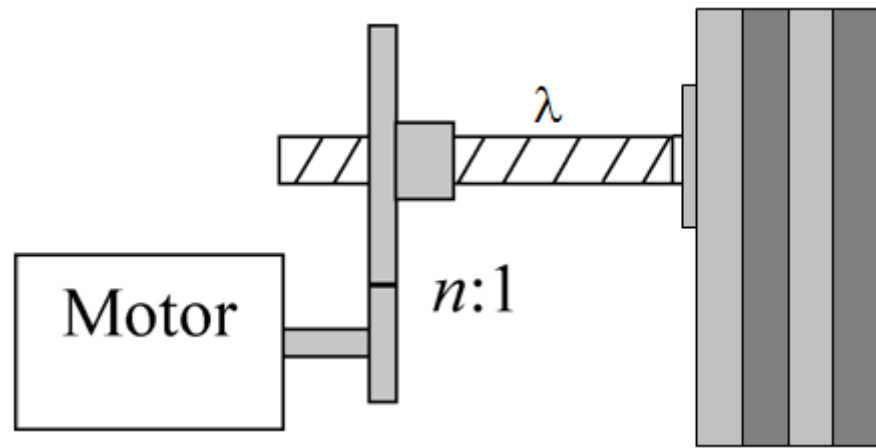

Figure 3.1 Schematic of electromechanical actuator.
3. a. An electromechanical actuator consisting of a brushless dc motor, a nut and a ball screw, figure 3.1 (page 4), is driving the carbon brakes of an aircraft. The brushless dc motor has a torque constant $k = 0.51 \text{ Nm/A}$, a winding resistance $R = 8 \Omega$, and a rotor inertia $J_m = 2.45 \times 10^{-4} \text{ kg.m}^2$. Furthermore, the screw pitch length of the electromechanical actuator is $\lambda = 5.5 \text{ mm}$, and the gear ratio between the nut and the shaft of the brushless motor is 35:1. Furthermore, the reaction force from the carbon brakes increases linearly with position, $F_r(x) = ax$, and $a = 24 \times 10^6 \text{ N/m}$. For a linear displacement $x = 1.25 \text{ mm}$:
- Calculate the efficiency of the brushless dc motor when the actuator is moving at a linear speed $v = 2.0 \text{ mm/s}$. (10)